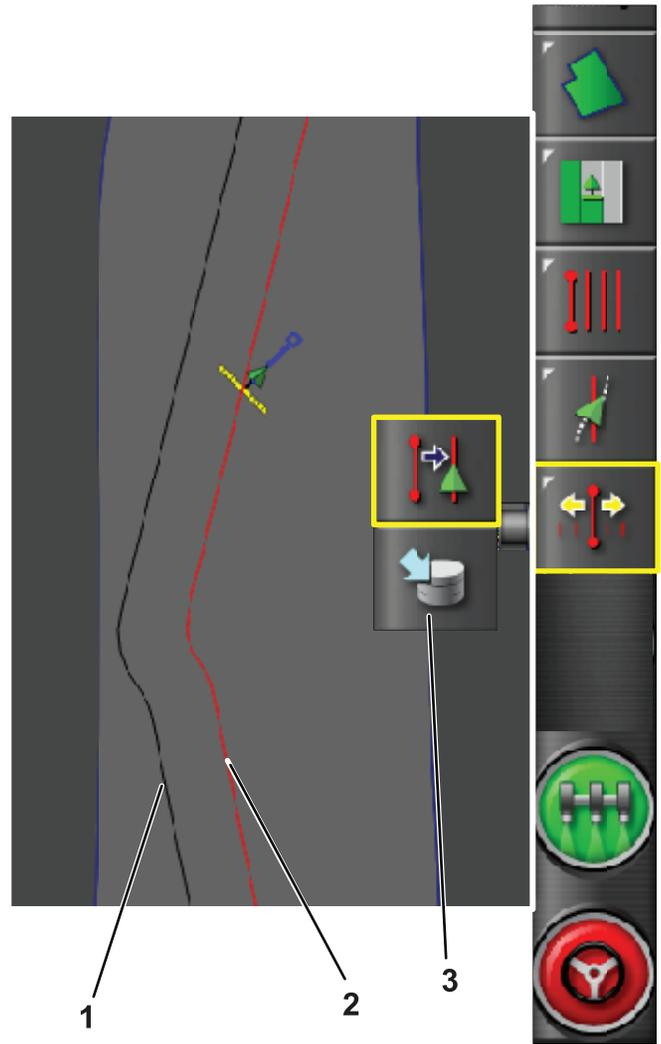

Figure 18
2. Push the nudge icon when you are in the location where you want the new guideline (Figure 18).